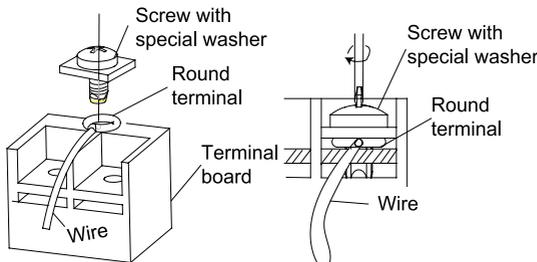

Fig.39
- 4). Position the round terminal wire, and replace and tighten the terminal screw with a screwdriver.(Fig.39)